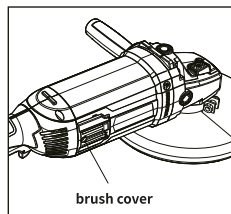

Fig 8
- 1.Regularly remove and check the carbon brushes. Replace them when the tool produces obvious sparks or when the brush cover wears down to the limit mark (Fig 8).